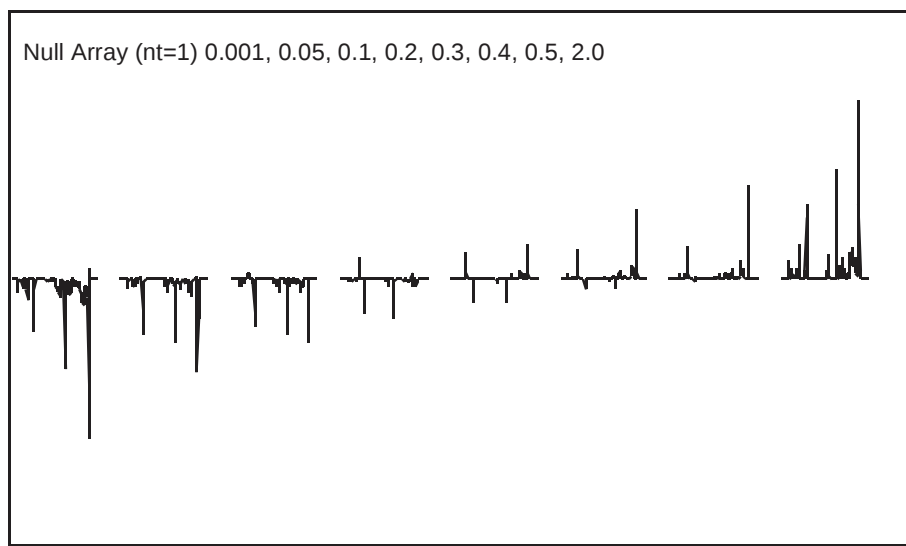

Figure 71. Optimizing the BIRD Nulling Time
8. Now, if appropriate, optimize the parameter **null**. Set **nt=1 ss=4** and enter an array of **null** values with at least one very short value (e.g., 0.001) and one very long value (e.g., 2.0). This experiment depends on the relaxation times of the spins involved. Set **at** and **d1** to the same values being used in the 2D experiment. Run the array and select the value of **null** for which either most of the peaks, or the biggest peaks, or the peaks of most interest (choose the criterion), are approximately zero; remember, no one value of **null** is correct for all peaks. Figure 71 shows this